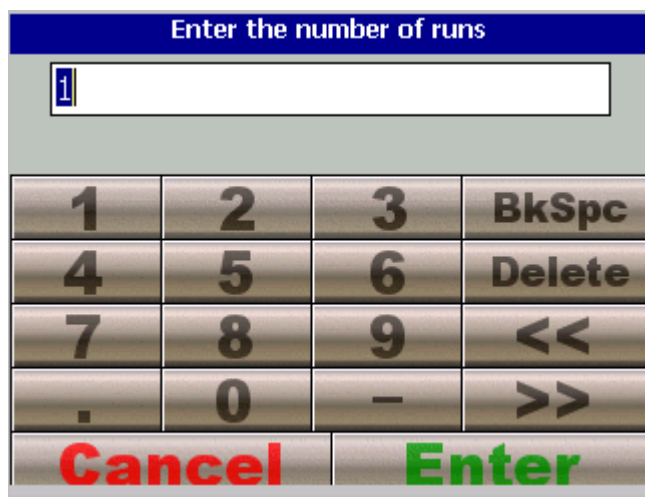

Fig 3-39 : Numeric Keypad Entry Screen, Number of Runs
- Numeric entry fields invoke a keypad entry screen similar to the one shown in Figure 3-39.